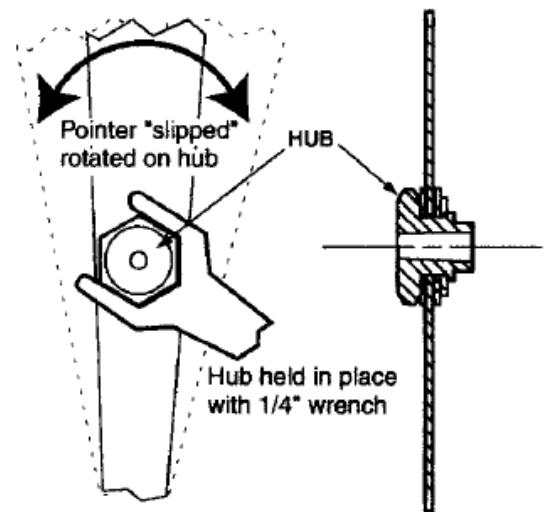

Figure 2.1—"Slipping" pointer
- b. Using a 1/4" open-end wrench, hold the hexagon pointer hub fixed and rotate the pointer with fingers until the point accurately indicates ZERO on the scale. (refer to Figure 2.1)